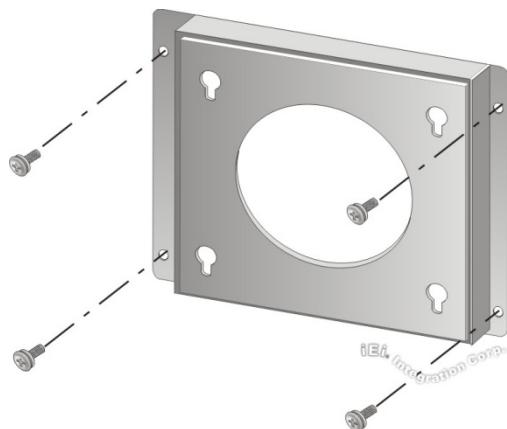

Figure 3-28: Wall-mounting Bracket
- Step 5:** Secure the mounting-bracket to the wall by inserting the retention screws into the four pilot holes and tightening them (Figure 3-28).